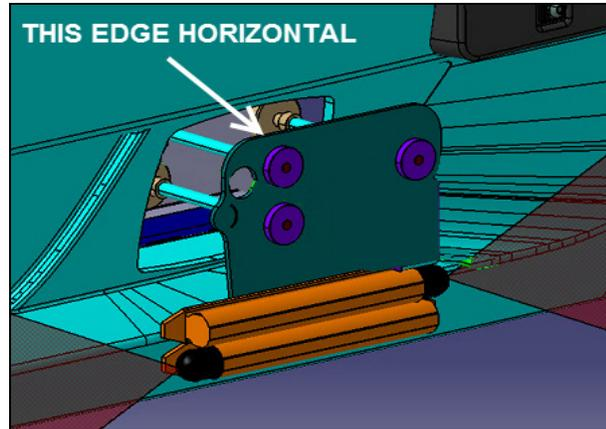

FIG.15
20. Passing through the opening in the bumper, fix the alignment tool on the steel clip using the magnetic mounts at the end of the three extensions (fig.15).